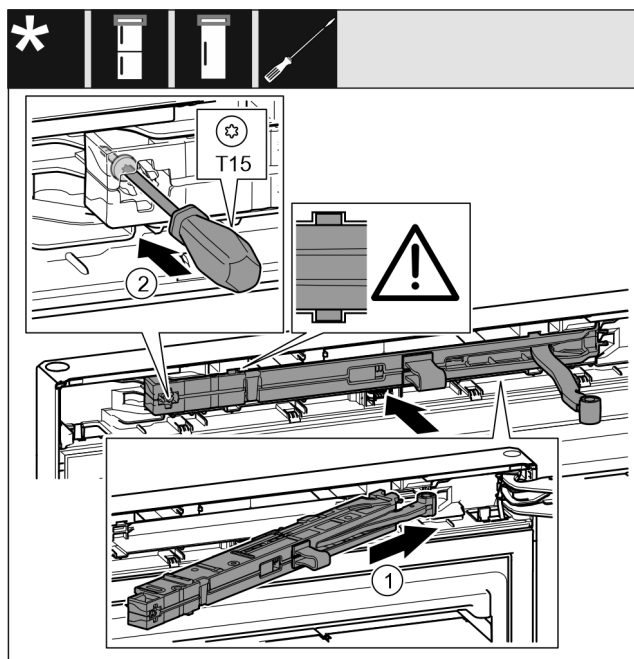

Fig. 41
- ▶ On the swap bearing block side, slide the closing damper unit Fig. 41 (1) into the recess at an angle up to the stop.
- ▶ Use a screwdriver to tighten the screw Fig. 41 (2).